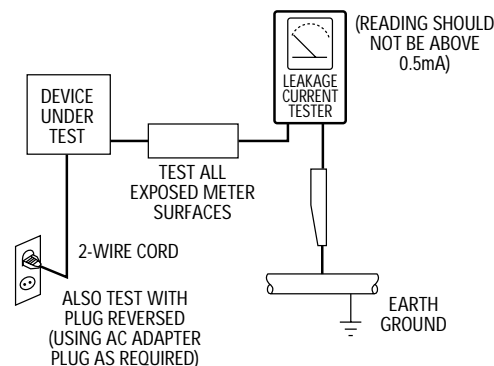

Fig. 1-1 AC Leakage Test
- (2) Be sure that there are no cabinet openings through which adults or children might be able to insert their fingers and contact a hazardous voltage. Such openings include, but are not limited to, excessively wide cabinet ventilation slots, and an improperly fitted and/or incorrectly secured cabinet back cover.
- (3) Leakage Current Hot Check-With the instrument completely reassembled, plug the AC line cord directly into a 120V AC outlet. (Do not use an isolation transformer during this test.) Use a leakage current tester or a metering system that complies with American National Standards institute (ANSI) C101.1 Leakage Current for Appliances and Underwriters Laboratories (UL) 1270 (40.7). With the instrument's AC switch first in the ON position and then in the OFF position, measure from a known earth ground (metal water pipe, conduit, etc.) to all exposed metal parts of the instrument (antennas, handle brackets, metal cabinets, screwheads, metallic overlays, control shafts, etc.), especially any exposed metal parts that offer an electrical return path to the chassis. Any current measured must not exceed 0.5mA. Reverse the instrument power cord plug in the outlet and repeat the test. See Fig. 1-1.